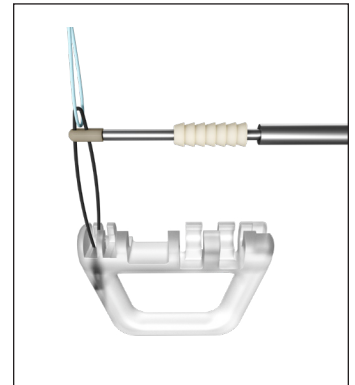
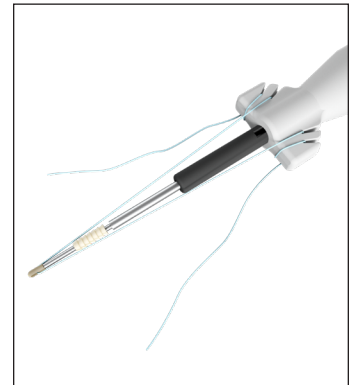

Figure 4.4
Figure 4.6
**c)** Gently pull the cartridge from the inserter to release the implant and pull the suture through the PEEK eyelet (Figures 4.4 and 4.5). Care should be taken during this step to avoid pulling the eyelet off the inserter wire. Pull the cartridge off to the side and ensure the suture is loaded into the eyelet. Once the cartridge has been removed and the suture passed through the eyelet, and if the surgeon desires, the two ends of the suture can be wrapped around the handle cleats (Figure 4.6).